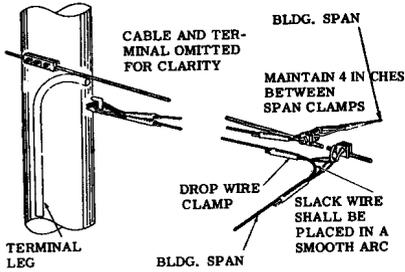

FIGURE 3. Span Clamp More Than 4 Feet From Pole
- 3.02 Where a span clamp is more than 4 feet from the pole, support the drop wire as shown in Figure 3. The drop wire clamp on the span to the building shall be attached in the top position clearance between the drop wire and cable.